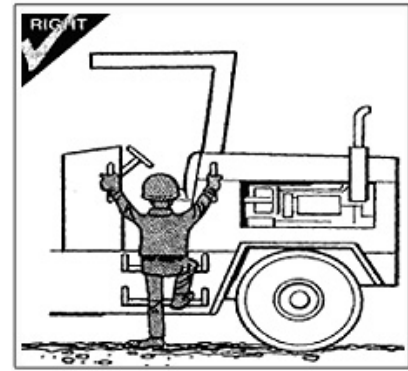

Figure 1-6
1.3.4.5 Get on and off the roller only when the machine is stopped, and always using the handrails correctly (figure 1-6). It is forbidden to transport passengers on roller compactor.